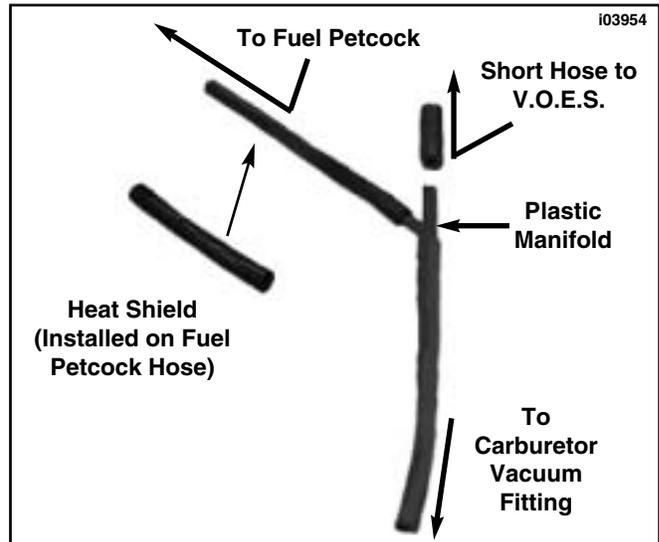

Figure 2. Original Vacuum Hose Configuration
3. See Figure 2. Note that Figure 2 represents the current Vacuum hose configuration. The heat shield is installed to Fuel Petcock hose, the short hose routes to V.O.E.S., and the long hose routes to carburetor.